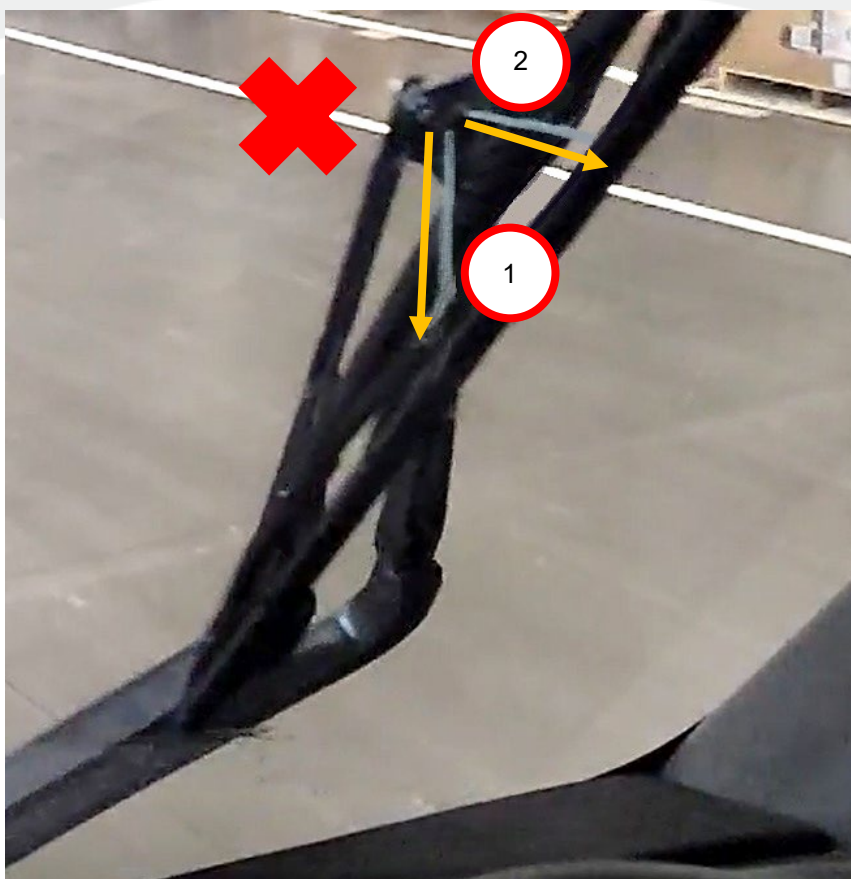

Figure 4 – Two windshield washer nozzle jet streams
- If two windshield washer nozzle jet streams spray on the windshield (Figures 4 and 5), continue to step 3.
- If two windshield washer nozzle jet streams spray on the windshield (Figures 4 and 5), create and escalate a Toolbox session for additional support, and then continue to step 9.